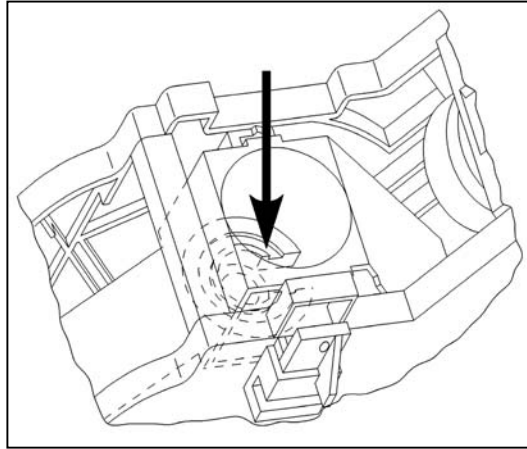

Figure 5-30: Brewing unit chamber inside the brew unit assembly.
6. Clean the brewing chamber (Figure 5-30), ram and bottom filter by hand with warm water without detergent, then dry.